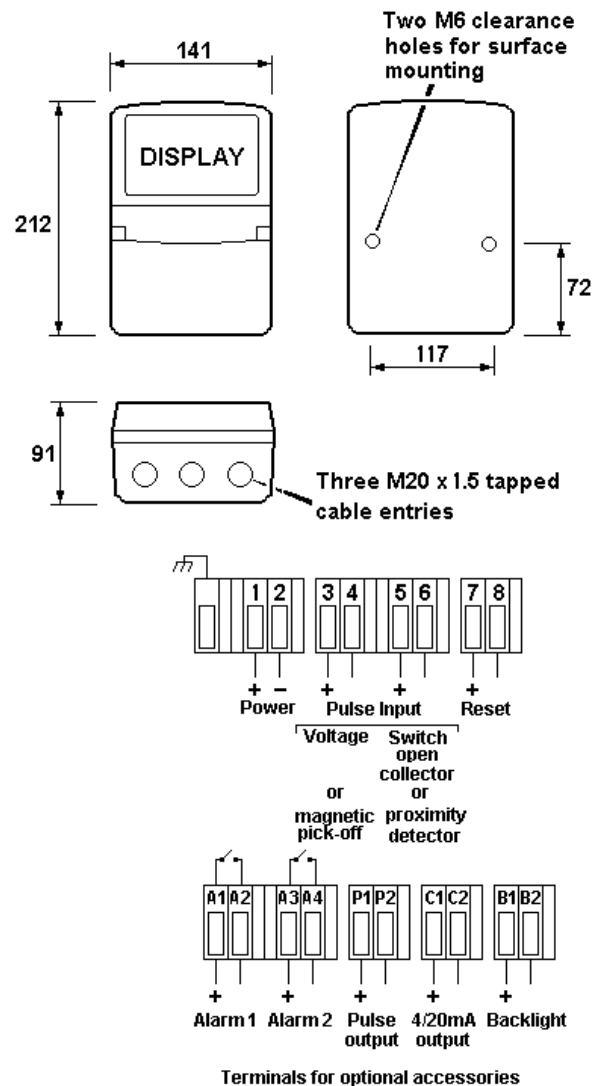

Fig 4 Dimensions and terminal connections
- Connect the field wiring to the terminals as shown in Fig 4.